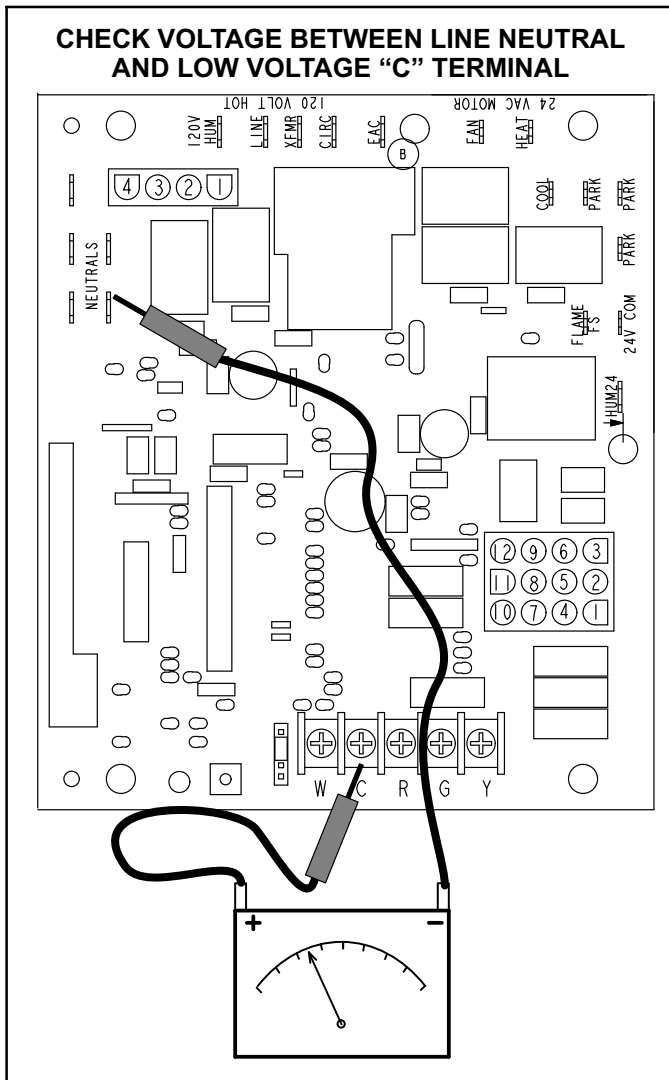

FIGURE 20
- 1 - Measure the AC voltage between Line Neutral (spade terminals) and "C" terminal (low voltage terminal block) on the integrated control. See figure 20. A wide variation in the voltage between Line Neutral and "C" as a function of load indicates a poor or partial ground. Compare the readings to the table below. If the readings exceed the maximum shown in table 1, make repairs before operating the furnace.